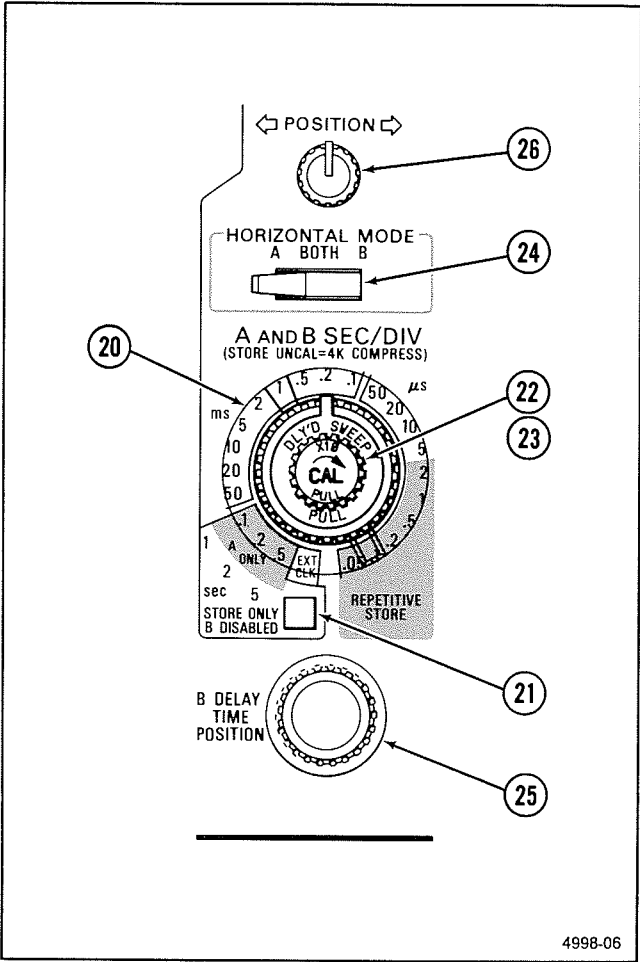

Figure 3-3. Horizontal controls.
Refer to Figure 3-3 for location of items 20 through 26.